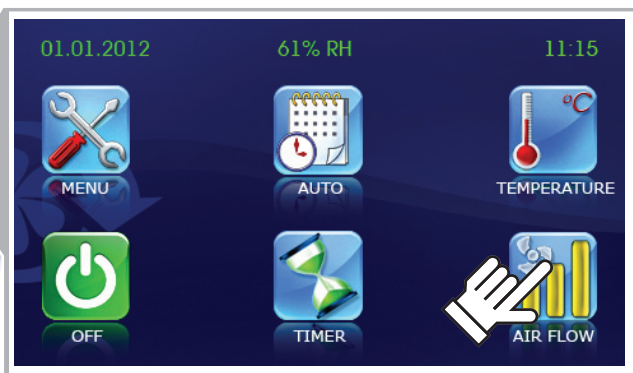

Fig. 8. Fan speed switching
- press the button **AIR FLOW**  (fig. 8);